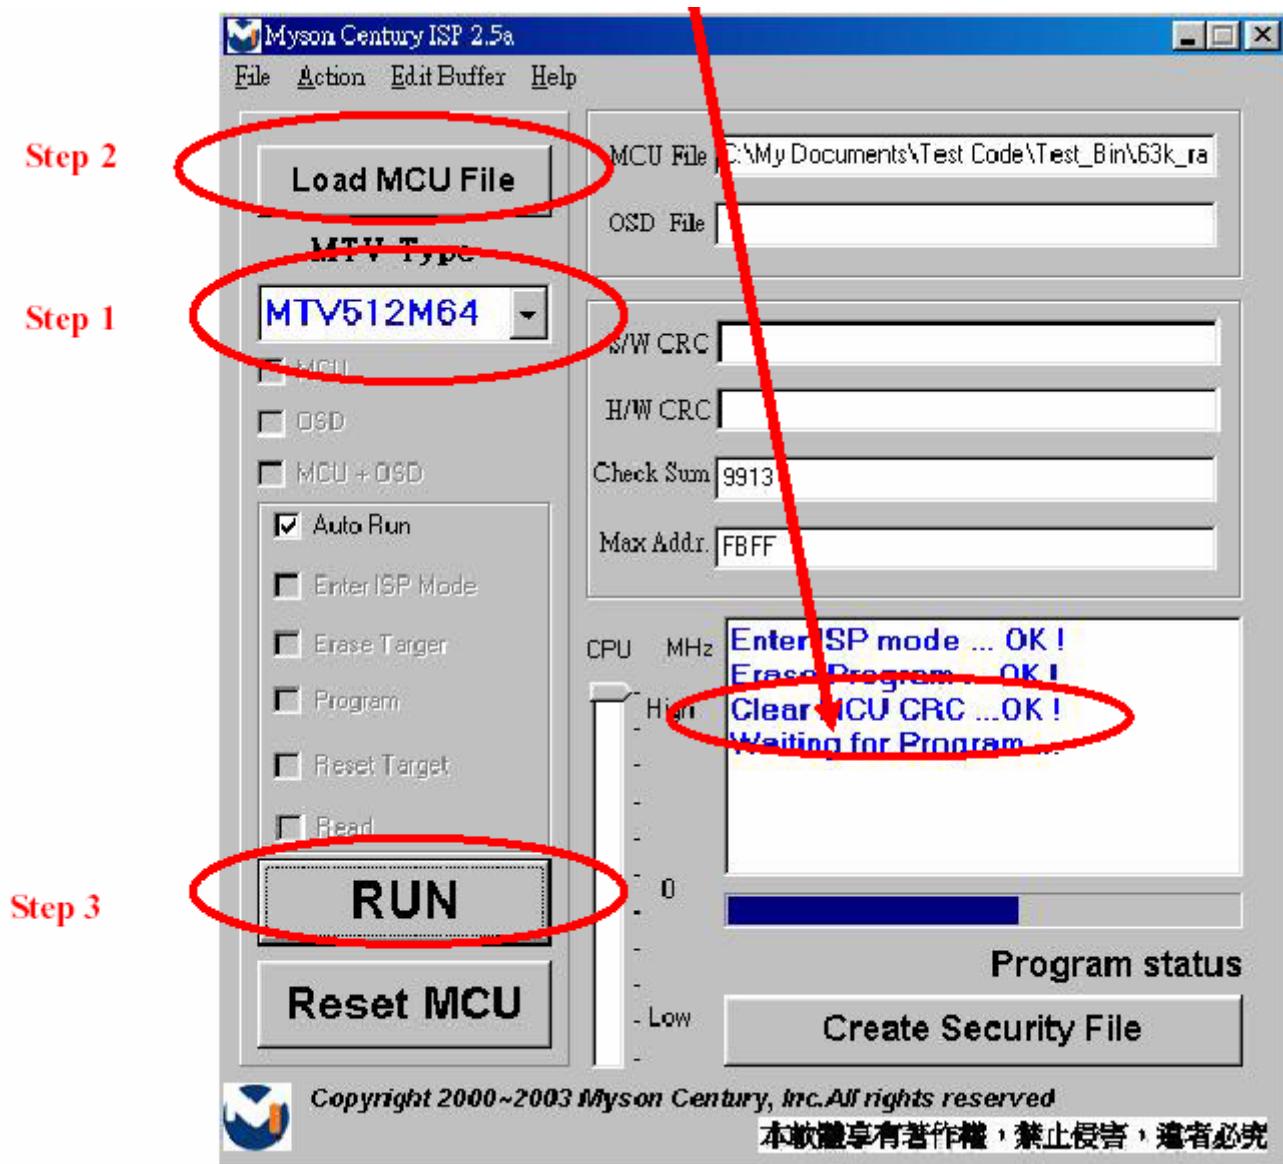

Fig 4.1
4.1 Select MTV type first, load the binary or Intel hex file that you want to program into the MCU, and select “Auto” item, then press “RUN” button, see Fig 4.1.